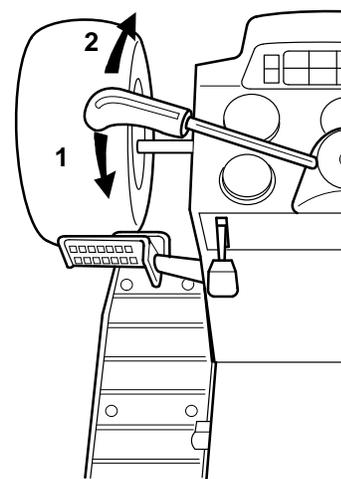

Figure 32
The attachment power lift (Fig. 32) is used to raise and lower attachments.
2. Pull the lift lever in the "UP" direction to raise the attachment lift (Fig. 32). This will lift and hold the attachment in the up, or raised position.
2. Push the lift lever in the "DOWN" direction to lower the attachment lift (Fig. 32). This will lower the attachment lift.